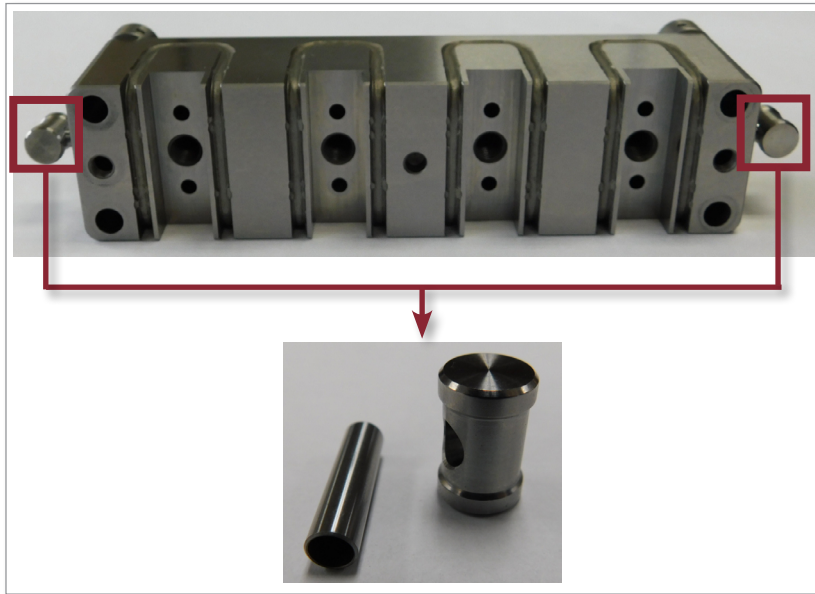

Figure 5-93 Install the anti-rotation dowel
1. Install the anti-rotation dowel into each end of the Melt-Cube. See Figure 5-93.